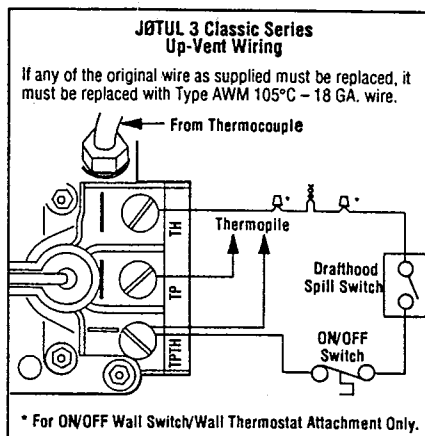

Figure 27
**Step 4. Installing the Optional Remote Wall Switch or Wall Thermostat** The standard JØTUL DV 3 system comes from the factory wired as shown in Figure 27. Select a convenient location for the remote wall switch or wall thermostat and connect the wiring to the appliance.
An optional wall mounted thermostat kit, part number 07-750003, can be installed along with the JØTUL 3 Classic Direct Vent. The wall mounted thermostat kit should be installed along with the appliance. Refer to Figure 27 and Step 4 for detailed installation instructions.